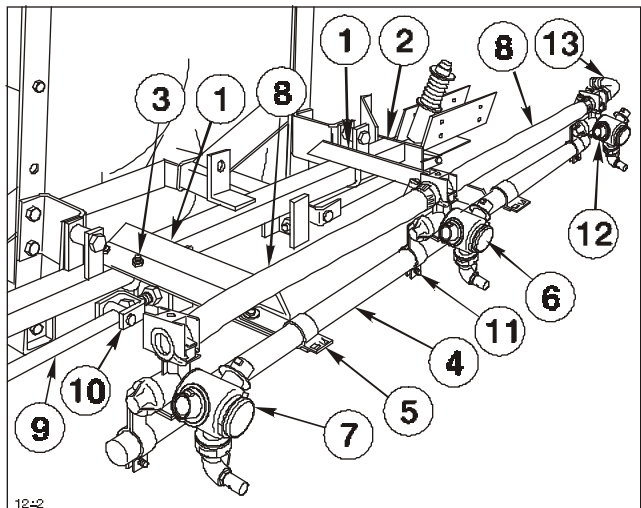

FIG. 13
6. Position the (2) Center Boom angles on the Main Frame and secure them to the Main Frame tube with (2) square U-bolts, (4) flat washers and hex nuts. See FIG. 13.
7. Center and attach the Center Boom Pipe to the two Center Boom Angles with (2) clamps, (2) 3/8" x 1" cap screws, flat washers and lock nuts. Once mounted the Center Boom Pipe should be approx. 20" (508mm) to 30" (762mm) from ground.
8. Loosely attach the Double Barb Turret Body with the Turret Body Clamp in the approximate center of the Center Boom Pipe. For the most uniform spray coverage, position all Nozzles level as shown in FIG. 13.
10. Place two Hose Clamps on two 3/4" x 19" Jumper Hoses and connect the two "end" Turret Bodies to the Double Barb Turret Body. Space nozzles 20" apart and tighten fasteners securely. Apply thread sealer and install the 90° 3/4" Hose Barb on the Threaded Turret Body. See FIG. 13.
11. Attach the two Strut Assemblies to the two adjustable clevis' found on each side of the Main Frame tube with (2) 1/2" x 2" clevis pins and (2) 1/8" x 1" cotter pins. See FIG. 13.
16. Adjust the Booms to a level position by adjusting the jam nuts on the adjustable clevis assemblies (See FIG. 13) to the desired position, then tighten the end nuts against the Main Frame plate.
27. Attach a 3/4" x 50" hose to Hose Barb in bottom of Cross. Route to 90° Hose Barb at R.H. end of Center Boom Pipe. (See FIG. 13) Mark Hose and cut to proper length. Attach hose to 90° Hose Barb using hose clamp.